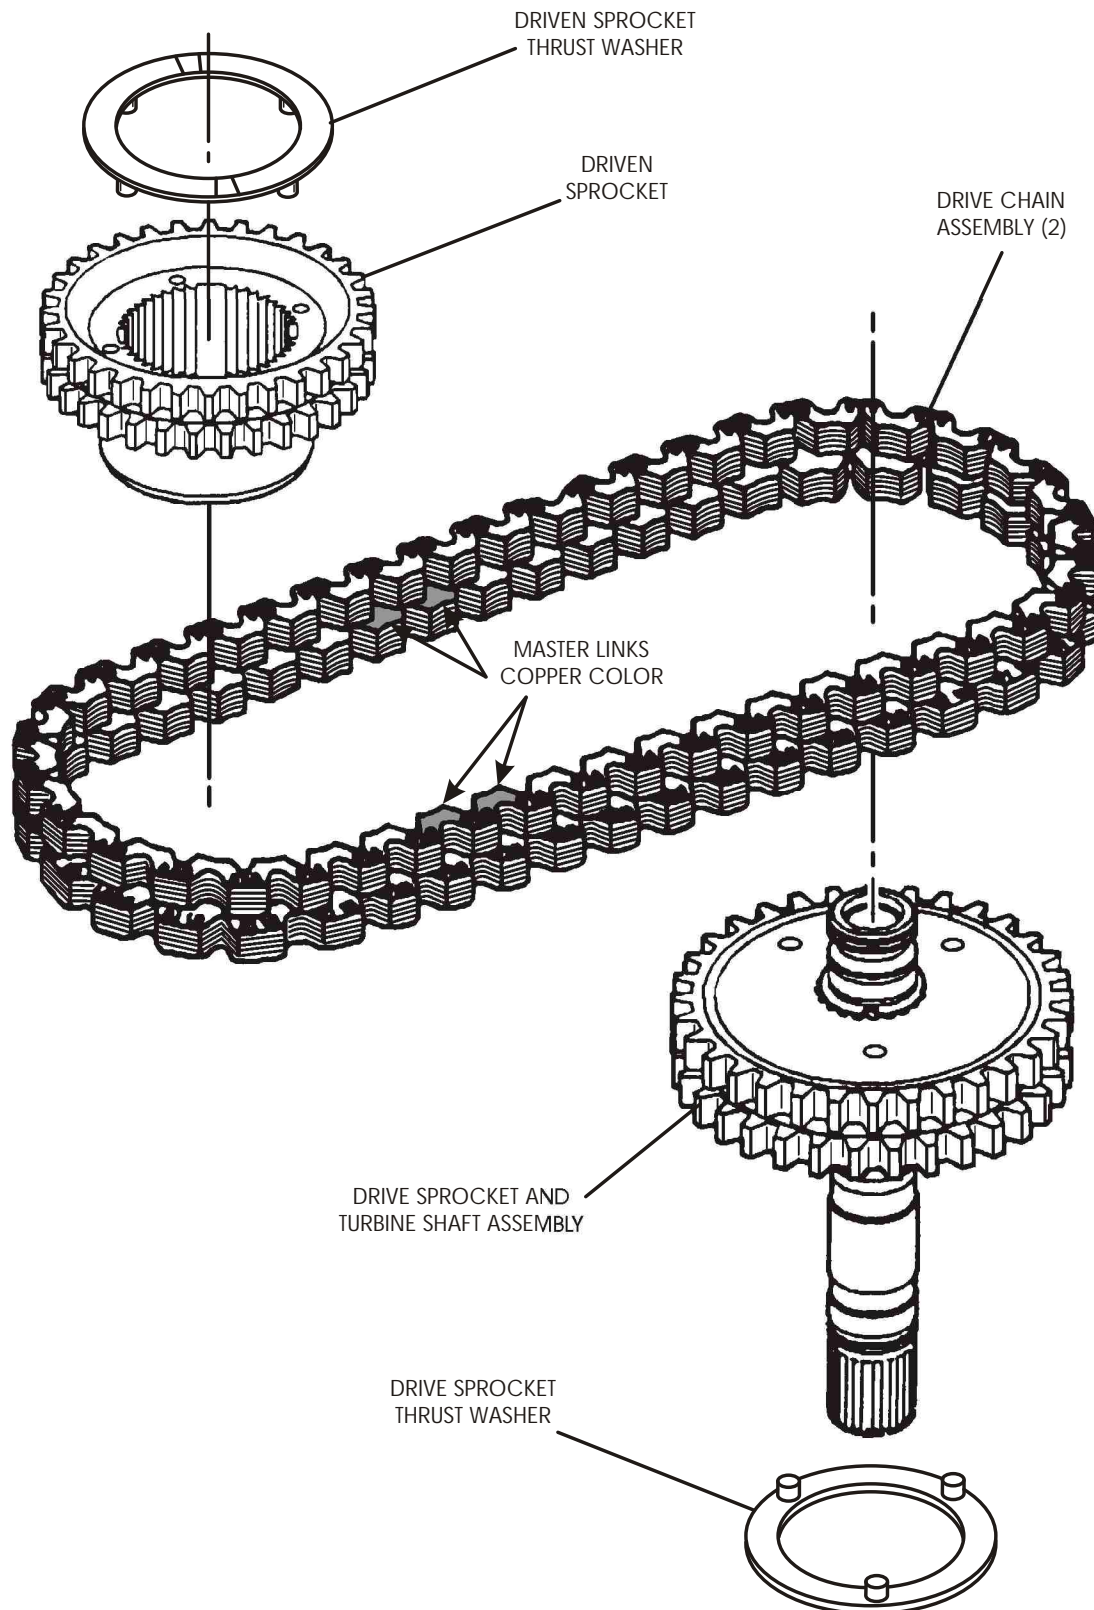

Figure 145
7. Install the drive sprocket thrust washer into the drive sprocket and retain with petrolatum, as shown in Figure 145.
8. Inspect the drive chain assembly for any wear or damage, replace as necessary. Refer to Figure 145.
9. Assemble the drive and driven sprockets into the drive chain assembly shown in Figure 145. Note: The drive chain must be installed in the correct direction.